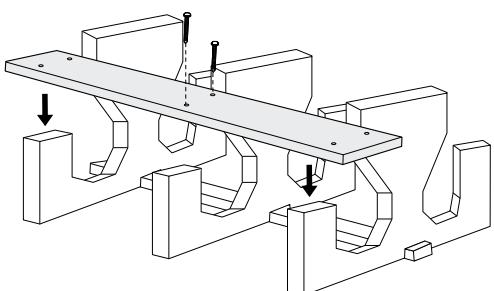

Figure 3
3. Pre-drill center holes on the slats using the power drill and 3/8" drill bit. Loosely attach slats to plastic bases using the 4" lag screws, power drill and 3/4" socket bit (will tighten later in step 7). (See Figure 3)